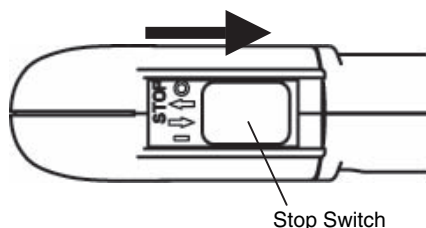

Figure 1
- (1) Perform the following procedure when the engine is cool.
- Assure engine is on a flat horizontal surface as shown in Figure 1.
<ul style="list-style-type: none">• If the engine is not positioned as in Figure 1 on a horizontal surface, an inaccurate indication of oil level may occur.• If the oil is filled above the limit, oil may be contaminated or may catch fire with white smoke.
- (1) Set this machine on a flat space.
- (2) Set the stop switch to "I" position (Figure 1).
- (1) Confirm that the tank cap is tightened securely.
- (2) Detach the oil cap.
- (3) Tilt the machine in order as shown in Figure 1.